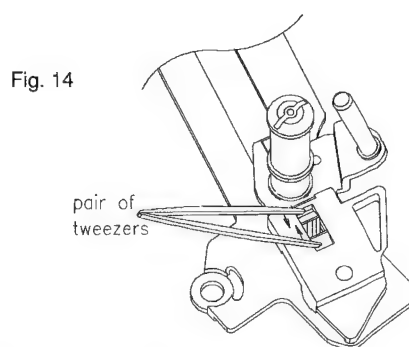

Fig. 14
- Compress the two snap hooks by means of a pair of tweezers and remove the roller assy from the roller unit right (Fig. 14).